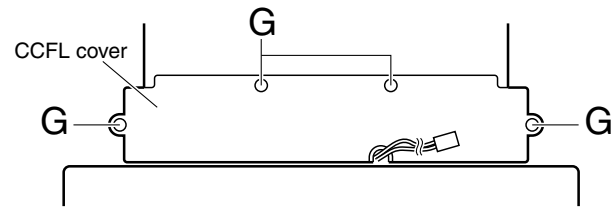

Fig. 9
■ Removing the CCFL board (see Fig. 9 to 12)